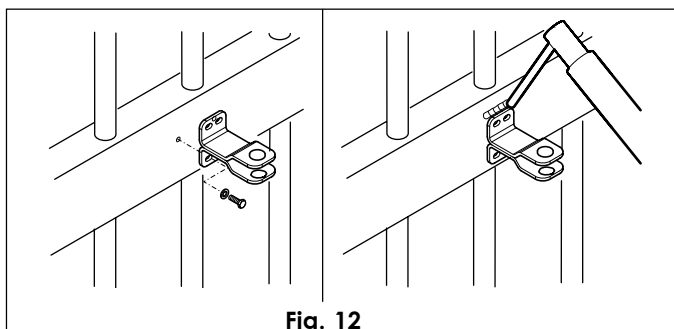

Fig. 12
- The fitting can be either welded directly on the leaf, or screwed on, using the threaded inserts (Fig. 12).